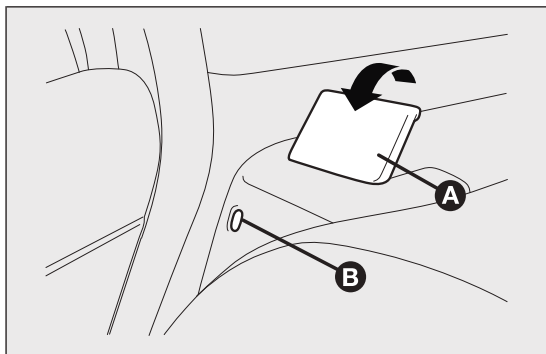

fig. 80
Lift the backrests and push them back until you hear both fastening mechanisms click in. Check that the red band B fig. 80 on the side of levers A is no longer visible.
*Make sure that the backrest is correctly secured on both sides (red bands B fig. 80 not visible) to prevent it from moving forward in the event of sharp braking, causing injuries to passengers.*